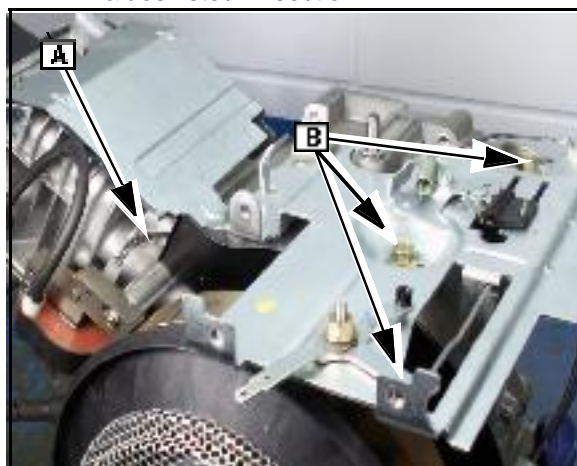

Fig. 32
6. Route the ignition harness as shown (A) and connect wire to ignition coil. Torque control bracket screws ([B] Fig. 32) to values listed in section 14.